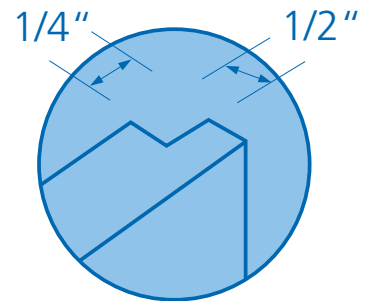

Figure 2
6. Miter cut the key molding (F) to size and attach to the edges of the top (A) and the bottom (C).
7. Cut a 1/4" deep by 1/2" wide rabbet into the back edge of parts B1 and B2 (see Figure 2). Don't forget that parts B1 and B2 are mirror images of one another. In other words, if you lay B1 on top of B2 with the inside surface of the parts touching, the edges of the dado and the rabbet on B1 should line up with the edges of the dado and rabbet on B2.
8. Cut a piece of 3/4" by 1-1/2" hardwood to length for the brace (E) and drill for pocket screws.
9. Using a 5/64" slot cutter (Rockler part # 95332), slot the front edge of parts B1 and B2 and the front edge of the shelf (D) to receive the black aluminum T-molding. The slots should be located 3/8" on center from